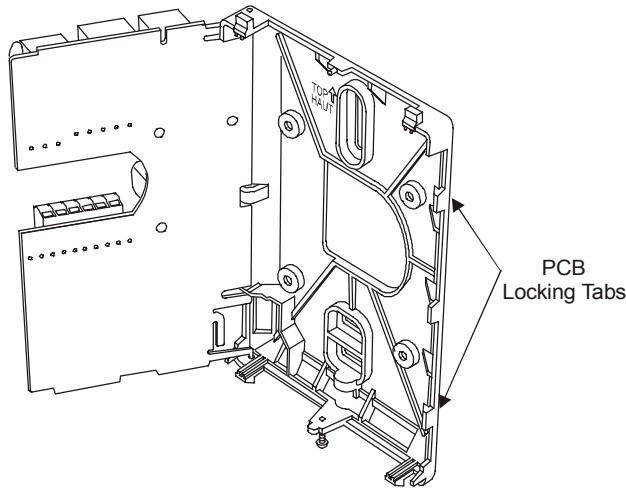

Figure 2: Opening the Thermostat PCB
2. Unlock the Printed Circuit Board (PCB) by carefully pressing the locking tabs to the right (see Figure 2). Open the thermostat's PCB to the left.